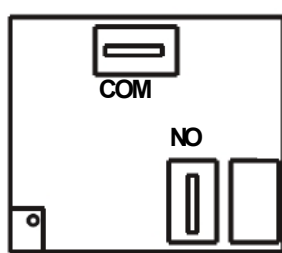

Fig.8
- 3) use a multimeter to check that the contacts of relays RL1 and RL2 are not short circuited (between NO and COM; see Fig. 8).